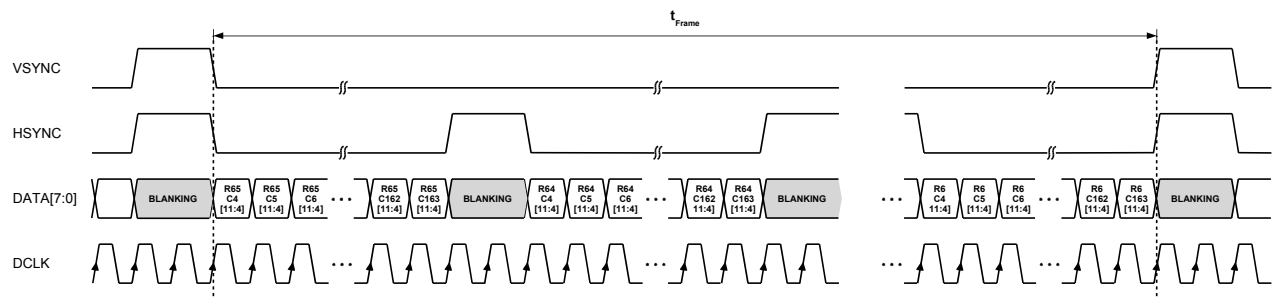

Figure 32: 8-bit mode
- **8-bit mode:** Transfers the 8 MSB bits of the pixel data with 1x DCLK. Refer to Table 16 and Figure 32.